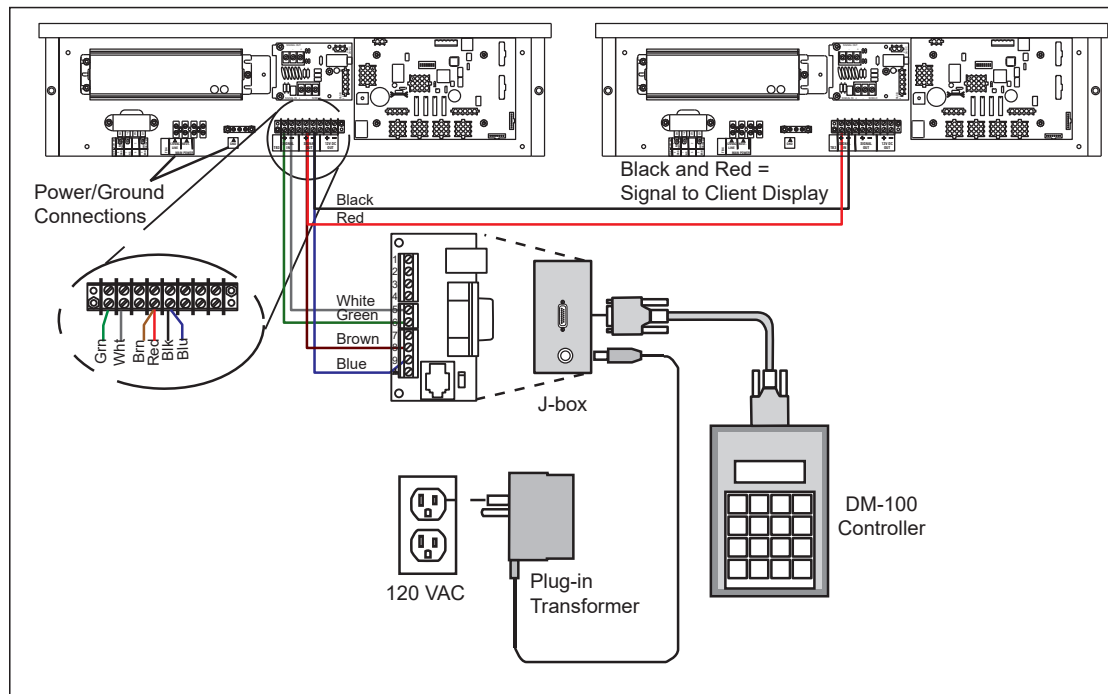

Figure 10: Direct Connection from Indoor Location
4. Connect the signal wire, through conduit, from the J-box to the driver enclosure as shown in **Figure 10** and listed in the table. Refer to **DWG-938300** and **DWG-938369** for additional information.